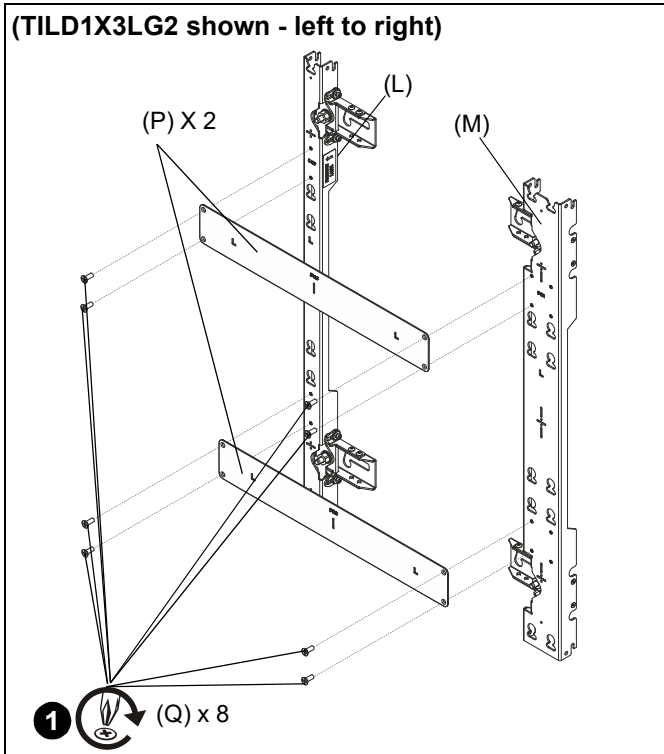
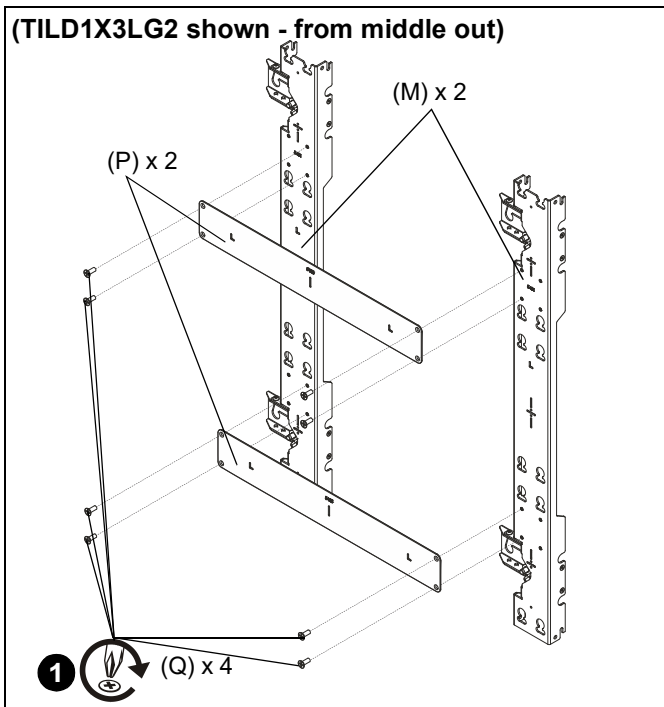

Figure 2
Figure 3
1. Use eight 10-24 x 1/2" flathead Phillips screws (Q) to secure two spacer plates (P) to mounting uprights (L and M or M and M). (See Figure 2) or (See Figure 3)